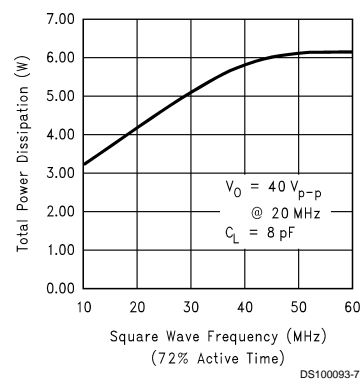

FIGURE 6. Power Dissipation vs Frequency
*Figure 6* shows the total power dissipation of the LM2407 vs. Frequency when all three channels of the device are driving an 8 pF load with a 40Vp-p signal. The graph assumes a 72% active time (device operating at the specified frequency) which is typical in a monitor application. The other 28% of the time the device is assumed to be sitting at the black level (65V in this case). This graph gives the designer the information needed to determine the heat sink requirement for his application. The designer should note that if the load capacitance is increased the AC component of the total power dissipation will also increase.